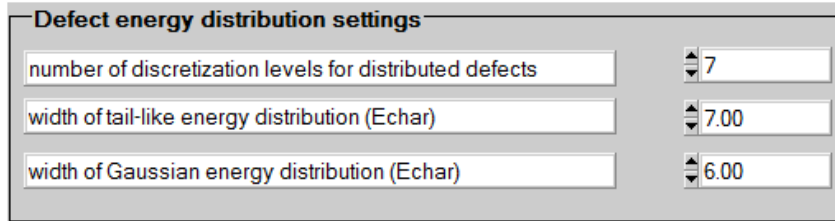

Figure 3.26 Defect settings on the numerical panel with their default values. Top: the number of discretization levels, bottom: w_t and w_G .
- (1) w_G can be defined in the numerical panel; default value: $w_G = 6.0$; see Figure 3.26; G stands for *Gauß*.
(2) w_t can be defined on the numerical panel; default value: $w_t = 7.0$; see Figure 3.26; t stands for *tail*.